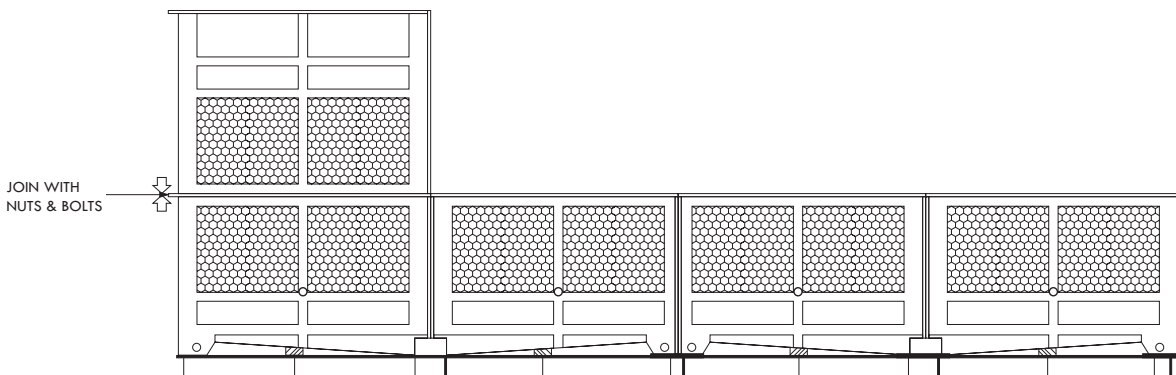

Figure A-26: Upper air inlet section 1 installation
H. Place Upper Air Inlet Section 1 on top of Basin Section 1, making sure that the bolt holes on Upper Air Inlet Section 1 are aligned with the perforations on Basin Section 1, then bolt down and secure the horizontal flanges with the stainless steel nut and bolt sets supplied by REYMSA (See Figure A-26)